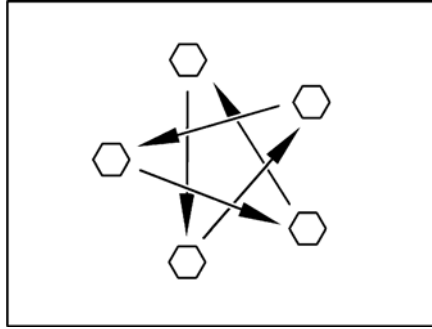

Fig. 370 Tighten the wheel nuts or wheel bolts cross-wise
- Check regularly that the wheel nuts or wheel bolts are firmly seated. Re-tighten the wheel nuts or wheel bolts of a changed wheel cross-wise (Fig. 370) after 50 km (30 miles).
- ▷ Tighten the wheel nuts or wheel bolts cross-wise (Fig. 370).